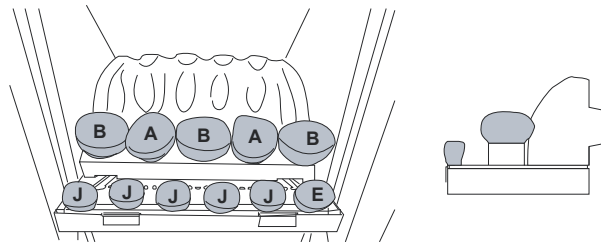

Figure 30
- Insert the **J & E** pebbles centrally onto the spikes and place the **A & B** pebbles on the middle matrix ensuring the same orientation as shown in **Figure 30**.